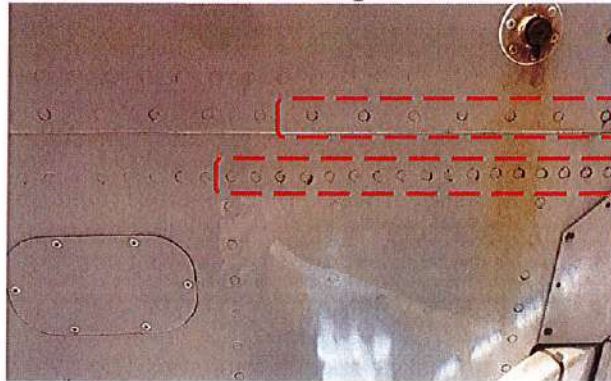

Figure 1 - Paint cracking around rivets on Sling 2 wing
In some Sling aircraft, an indication of this condition is paint cracking around the rivets. The affected regions are usually located on the underside of the fuselage along the main spar carry-through and on upper and lower inboard wing skins. Figure 1 shows paint cracking on the inboard skins of a Sling 2 aircraft.
2. Figure 1 demonstrates the fretting condition in aircraft and hence should not be used as a guide to the number of rivets that should be replaced.
4. The number of rivets recommended in this Service Bulletin should be adhered to provided fretting is not yet detected. However, for an aircraft with longer service hours, the affected region, and as a result the number of rivets, may increase as evidenced in Figure 1.